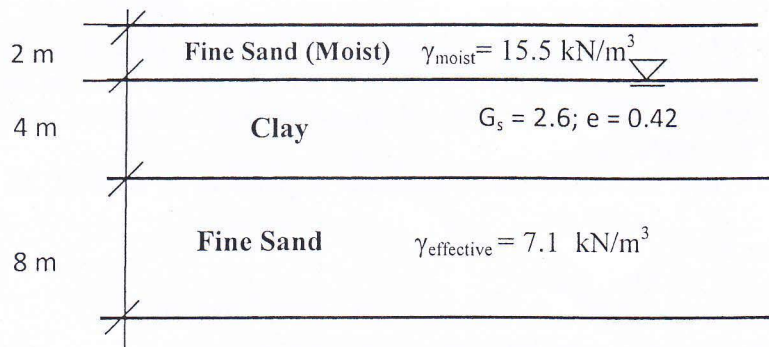

Figure 1
6. Calculate saturated unit weights of the soil layers existing below the ground water table for the soil profile shown in Figure 1. Draw the effective stress, total stress and pore water pressure diagrams up to a depth of 14 m below the ground level.